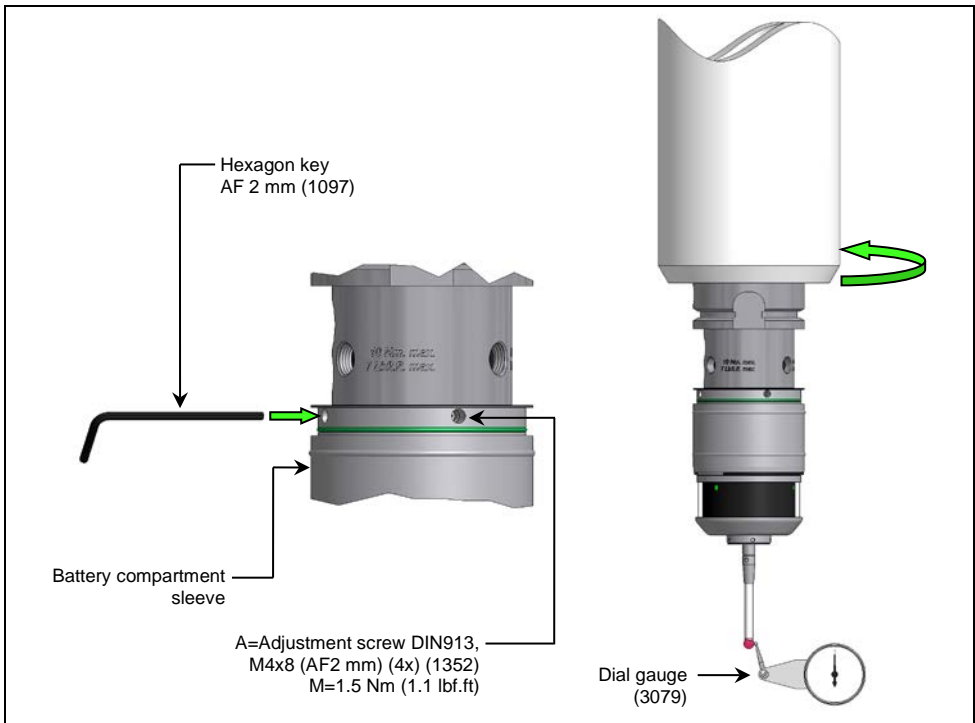

Fig. 18 Aligning stylus to spindle centre
3. Adjust the probe with the adjustment screws A (4x) to within less than $5\ \mu\text{m}$ (Fig. 18).
4. Tighten the adjustment screws A (4x) against each other (Fig. 18).